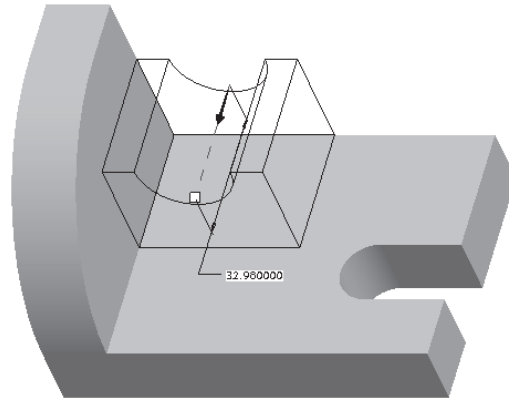

Figure 4-85 Arrow showing the direction of material addition
4. Use the middle mouse button to orient the model, as shown in Figure 4-85. This orientation of the model gives a better view of the sketch in 3D space. A yellow arrow is displayed on the model, indicating the direction of extrusion.